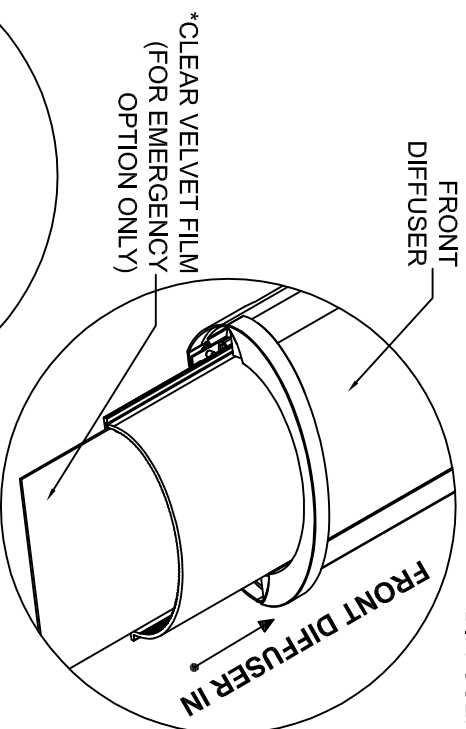

FIG. 4
- c. Insert the clear velvet film into the front diffuser, make sure that the film is sitting on the foot of the diffuser. (FIG. 4)